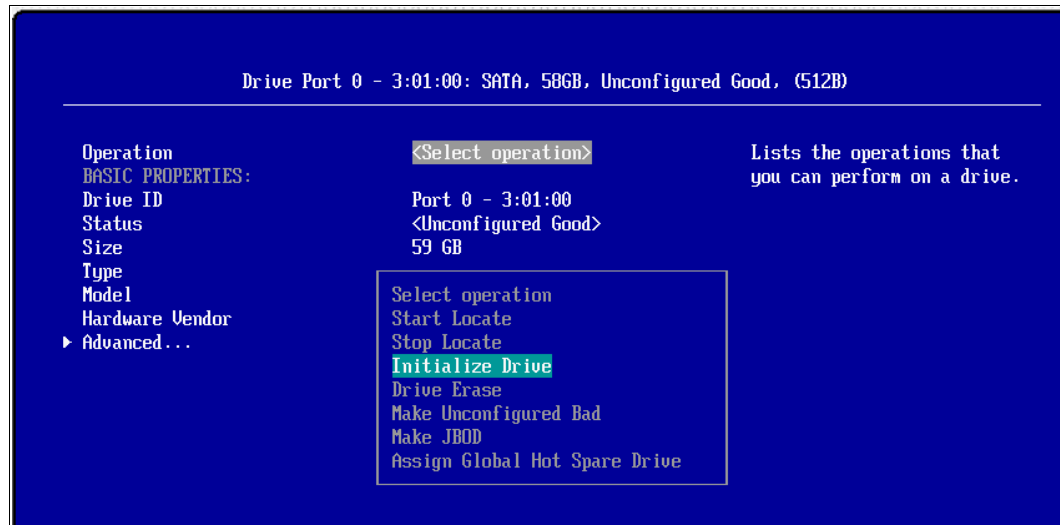

Figure 5-23 Drive operation selection, Initialize Drive selected
7. From the Main Menu, select **Drive Management**. Ensure that your disks are in the *Unconfigured Good* state by selecting each drive individually so you can check the status for each one. For example, the drive shown in Figure 5-23 has the Unconfigured Good status.
8. From each drive window (Figure 5-23 on page 92), highlight **Select operation** and press Enter. Then, select **Initialize Drive** and press Enter to initialize the drive.